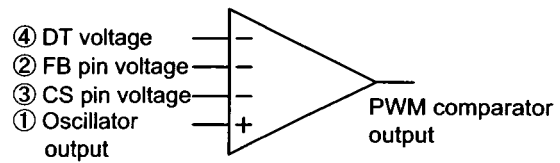
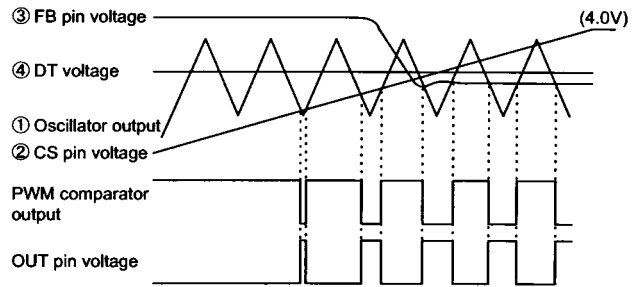

Fig.3 PWM comparator
Fig.4 PWM comparator timing chart
(2) PWM comparator
The PWM comparator has four inputs as shown in Figure 3. Oscillator output ① is compared with CS pin voltage ②, FB pin voltage ③, and DT voltage ④. The lowest of three inputs ②, ③, and ④ has priority and is compared with oscillator output ①. While the voltage is lower than the oscillator output, the comparator output is high. While the voltage is higher than the oscillator output, the PWM comparator output is low (see Figure 4). The IC OUT pin voltage is high while the PWM comparator output is low. When the IC is powered up, CS pin voltage ② controls soft start operation. The output pulse then begins to widen gradually. During normal operation, the output pulse width is determined within the maximum duty cycle (FA5510/14:46%, FA5511/15:70%) set by DT voltage ④ under the condition set by FB pin voltage ②, to stabilize the output voltage.